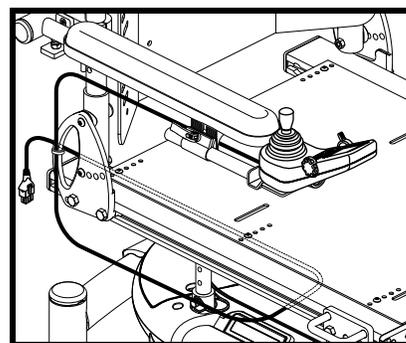

Figure 33. Controller Harness Routing
6. Route the controller harness to the back of the power base and secure it with wire ties. See **figure 33**.